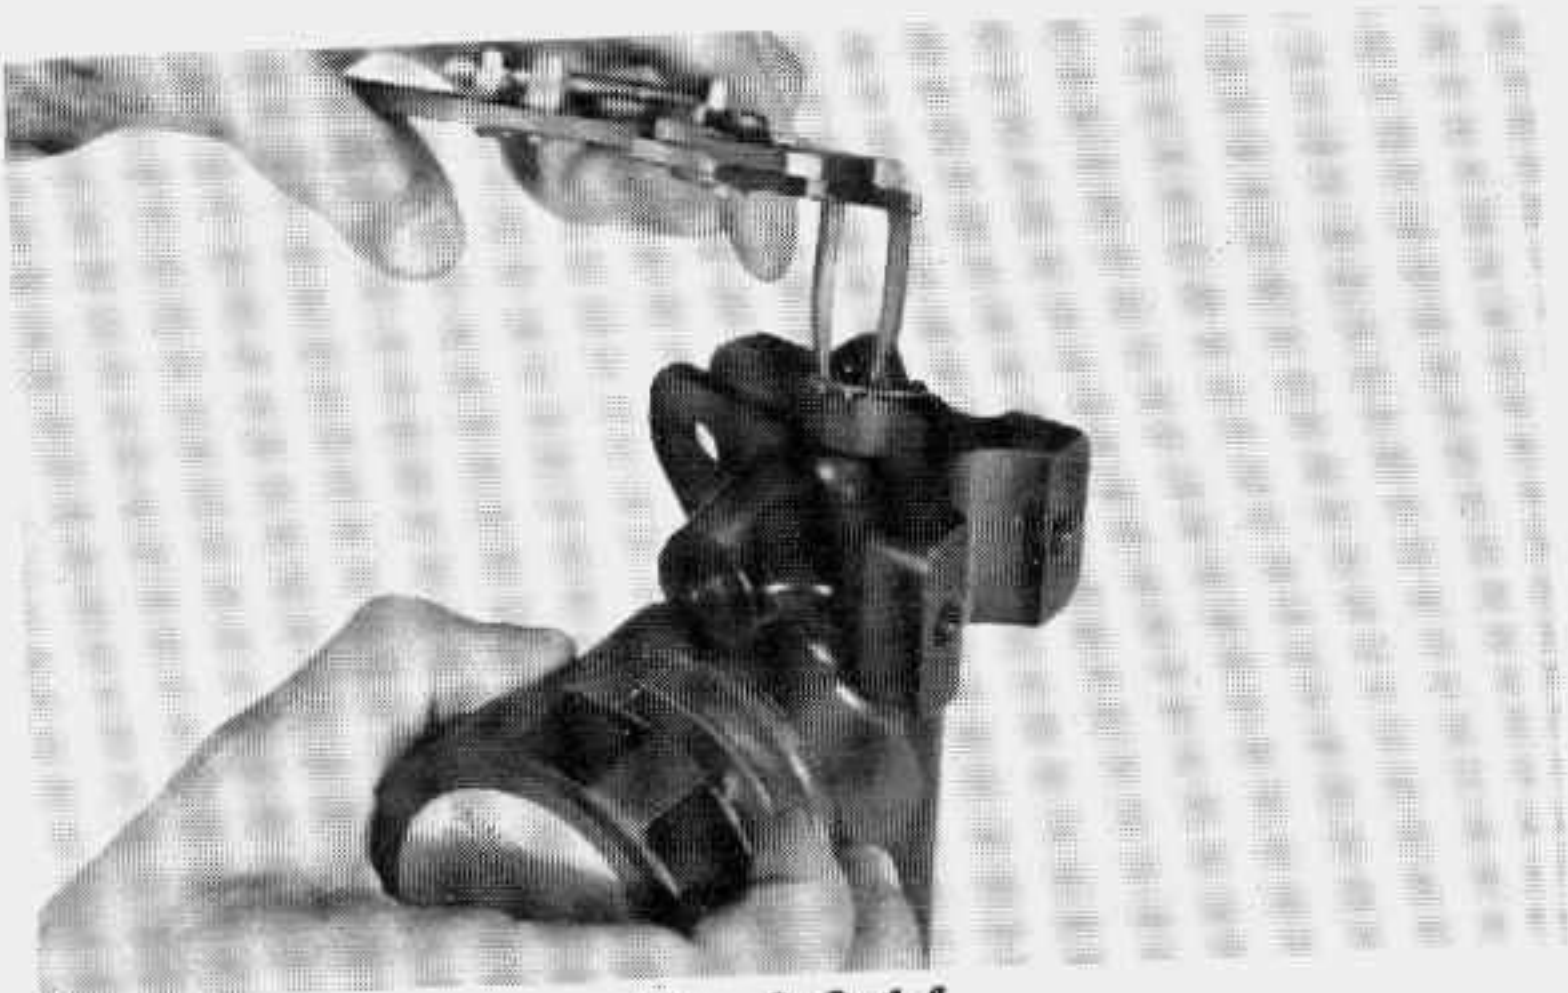

Fig. 8-2-14.
c) Remove the circlip with the special tool (Circlip remover, 19920-73110) as shown in Fig. 8-2-14.